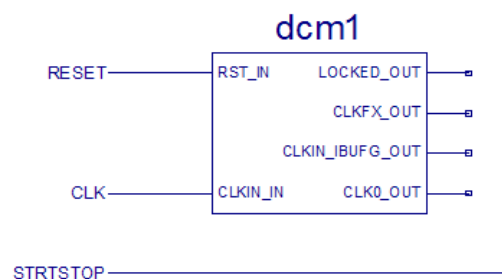

Figure 3-41: Labeled Nets with I/O Markers
3. Place the name on the leftmost end of the net, as illustrated in Figure 3-41.